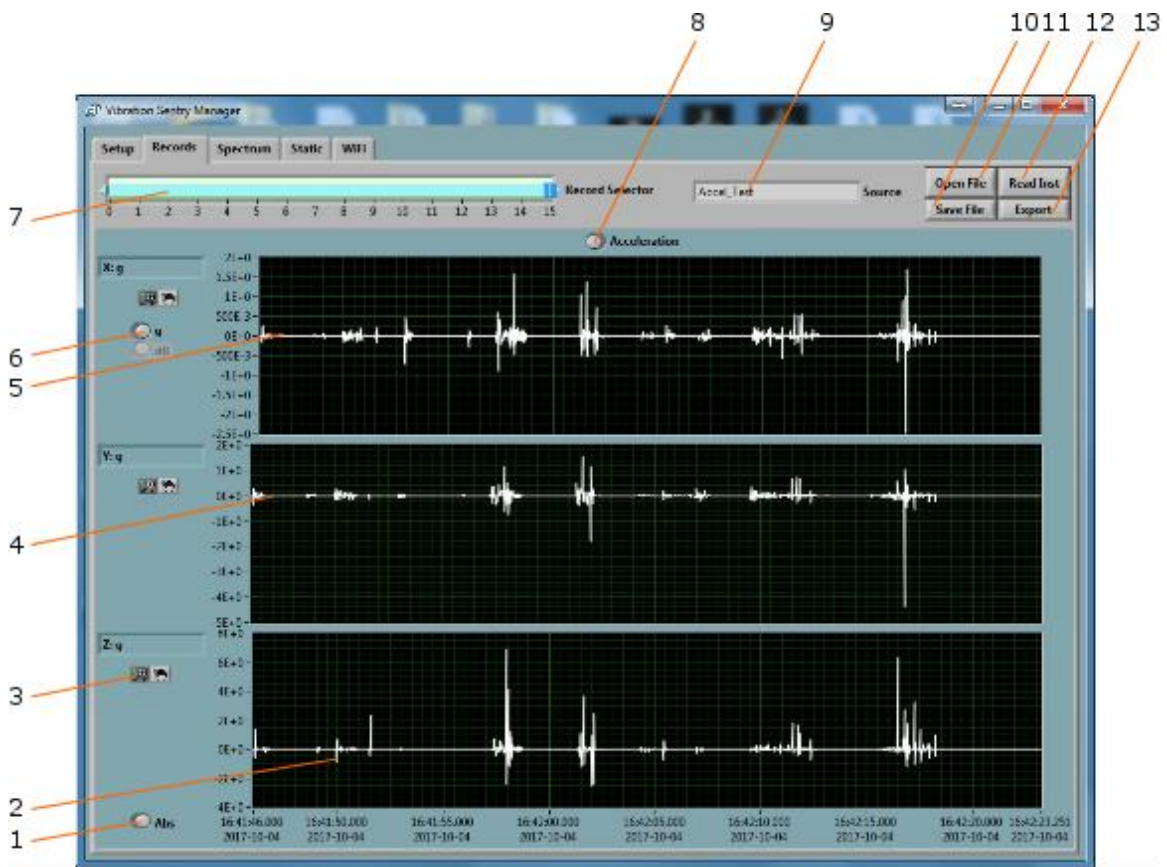

Figure 11 Record Tab
- **The Records Tab:** Is used to download, display and export the data from the `VSEW_mk4` (see Figure 11).